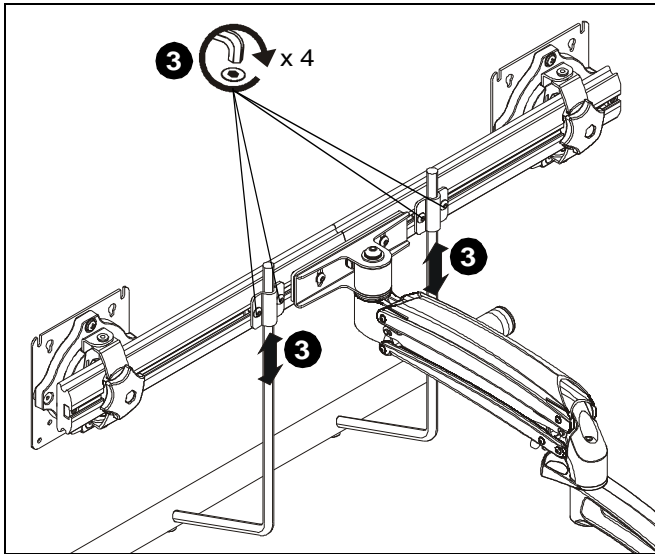

Figure 18
- Position handle (J2) at desired height and secure by tightening button head cap screws attaching handle brackets to array. (See Figure 18)